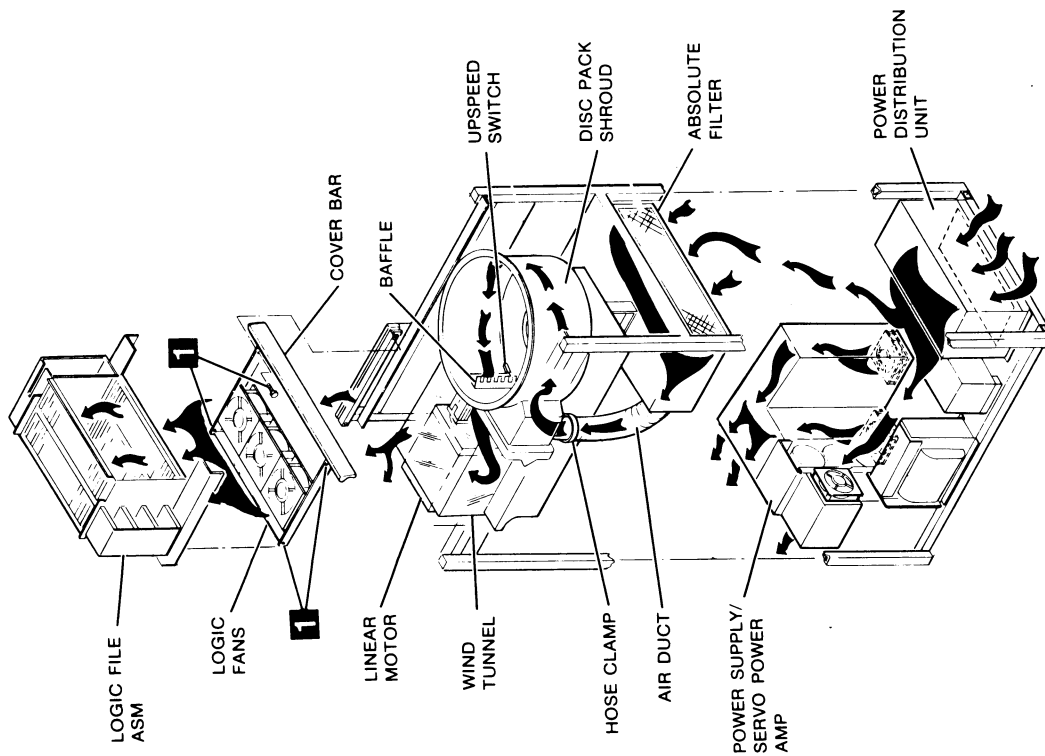

FIGURE 4-14. AIRFLOW AND FILTRATION SYSTEM
Procedures to use in replacing the absolute filter, a logic fan, air baffle, or upspeed switch are presented in the following paragraphs (refer to Figure 4-14). No special tools are required.
3. Remove four screws, **1** in Figure 4-14. The two screws at the rear are removed from the rear of the drive. When all screws are removed, the logic fan assembly is free (can be dropped and withdrawn from the drive).